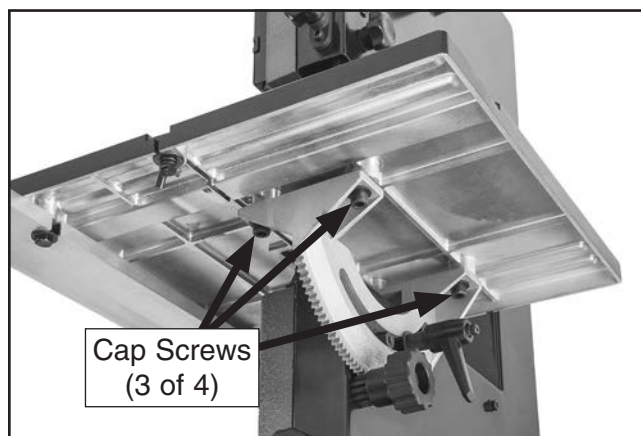

Figure 30. Location of trunnion cap screws.
5. Loosen trunnion cap screws that secure table (see **Figure 30**).